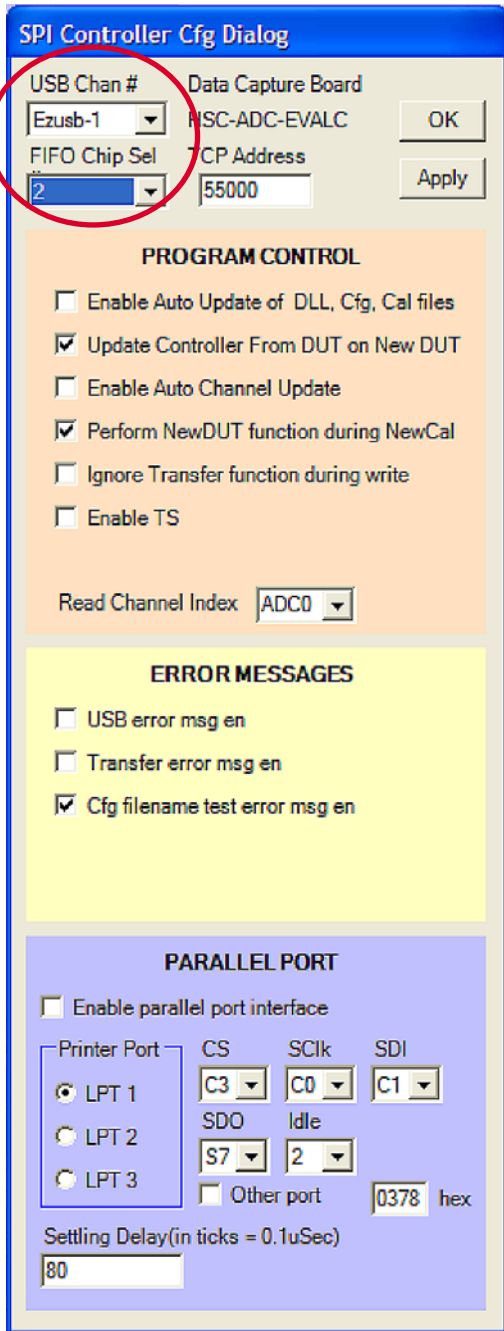

Figure 10.
3. Select **Config** and then **Controller Dialog** and make sure that **FIFO Chip Sel** is set to **2** and that **USB Chan #** is set to the same value as the AD9262 SPIController Cfg dialog (see Figure 10).